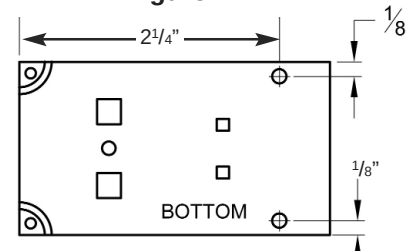

Figure 2
Step 7: Use tin snips to cut an opening on an angle in the front of the coil piece. This allows the metal seesaw to rest in front of the upside-down coil. Refer to figure 2, below right.